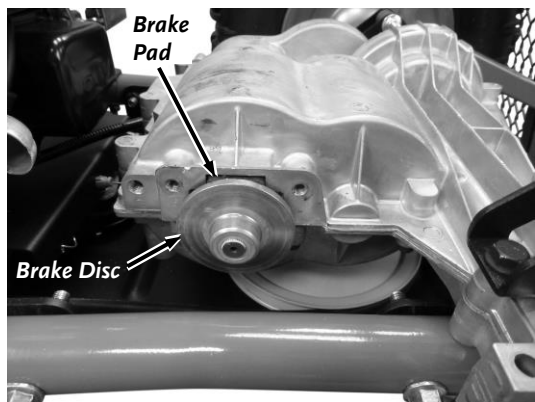

Figure 48
6. Pull the Brake Disc off the splined Shaft and remove the Brake Pad (**Figure 48**).